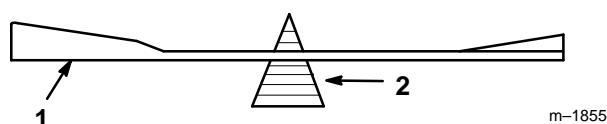

Figure 25
2. Check the balance of the blade by putting it on a blade balancer (Fig. 25). If the blade stays in a horizontal position, the blade is balanced and can be used. If the blade is not balanced, file some metal off the end of the sail area only (Fig. 23). Repeat this procedure until the blade is balanced.